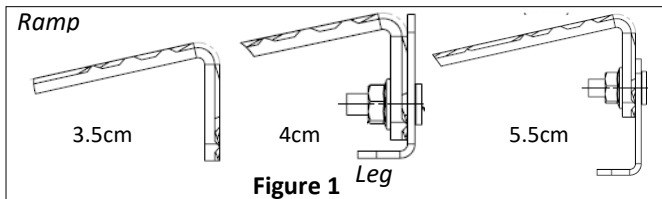

Figure 1
- Measure the height of the threshold & choose the suited configuration (fig 1.)